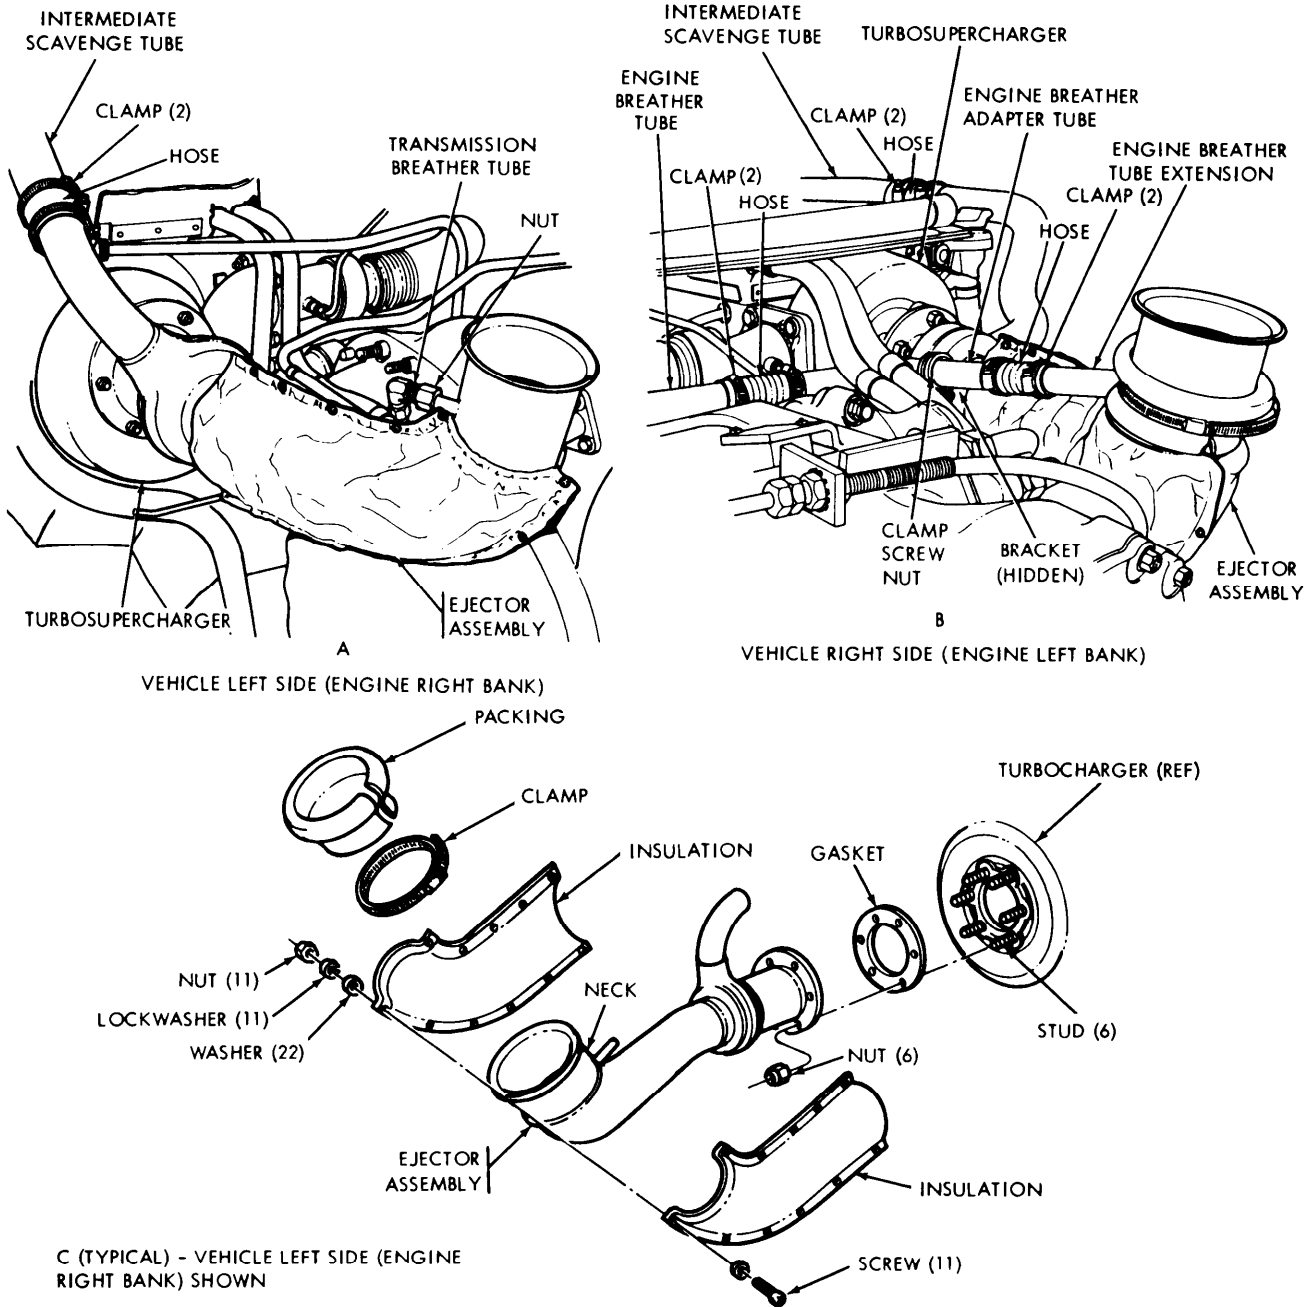

Figure 6-17. Exhaust ejector assemblies replacement.
(2) Installation.
- (a) Apply silicone compound (item 19, appendix C) inside red hose.
d. Exhaust Ejector Assemblies Replacement (Fig. 6-17).**(1) Removal.**